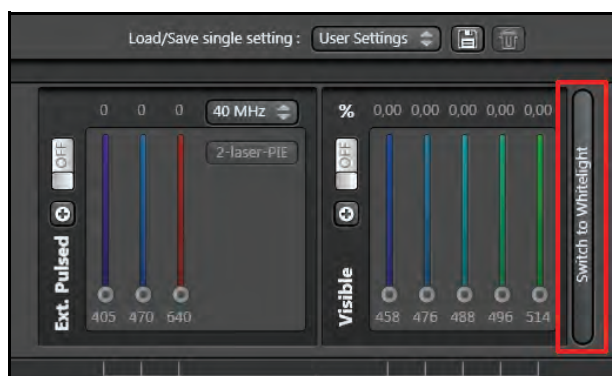

Figure 107: Calling up the white light laser laser spectrum
1. In the laser dialog in the **Beam Path Settings**, you can switch between the laser spectra for conventional laser lines or the white light laser. In order to call up the laser spectrum of the white light laser, click the **Switch to Whitelight** button (**Figure 107**).